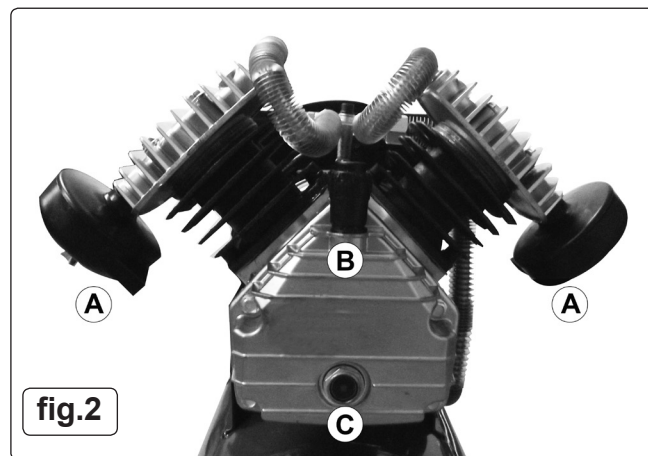

fig.2
- 3.8. Screw the back half of a filter unit into the downward facing port openings in each head as shown in fig.2.A. Place a filter cover over each threaded rod protruding from the back half of the filter and secure each with a wing nut. Refer also to fig.4.
a) Replace the lubricating oil. For oil specifications see 5.7. Remove the oil filler/breather plug (see fig.2.B) then unscrew oil sight glass (see fig.2.C) and drain the oil into a container. Drain when the compressor is hot so that oil drains rapidly and completely. Incline compressor to ensure complete drainage. Replace oil sight glass and refill through the oil filler/breather aperture. Do not overfill. Replace filler/breather plug.